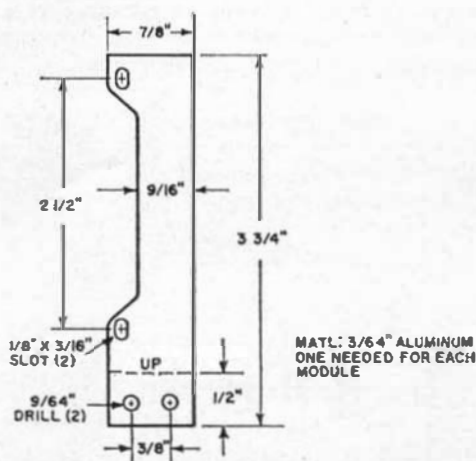
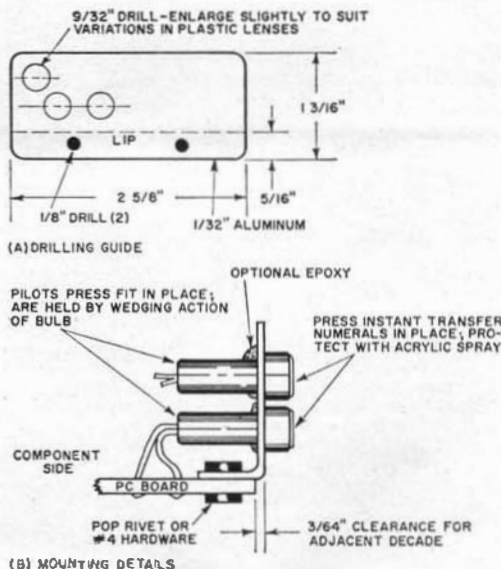

Fig. 11. If necessary, to avoid interference with components or wiring, deepen the notched cutout.
Fig. 12. Arrange lamp mounting holes in two closely spaced, staggered columns to obtain small size.
Misc.—PC board, 3" x 3- $\frac{1}{4}$ ", PC terminals or cyclets (7) (optional), #24 jumpers (2), solder, lamp bracket (see Fig. 12), mounting bracket and hardware (see Fig. 11).
as those shown in Fig. 11 can be used. The photos show how these brackets are used for support.
A three-hole bracket is required for the indicator lamps of the gate module. This can be fabricated as shown in Fig. 12. (One of the brackets supplied with the DCU kit can be used as a guide.) Use orange plastic covers for the 0 and 1 bulb, and a red one for the overrange indicator.
Misc.—Vinyl clad aluminum case and support assembly, 3/4" knobs (2), 1-3/4" knob (1), backup plate for controls, dialplate (optional), mounting hardware, brackets for M2, M3, (see Fig. 11), wire, solder, 1500- to 1500-ohm precision resistor, green jewels (2), etc.